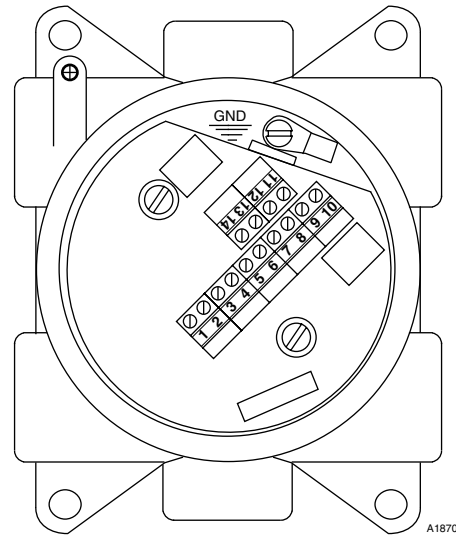
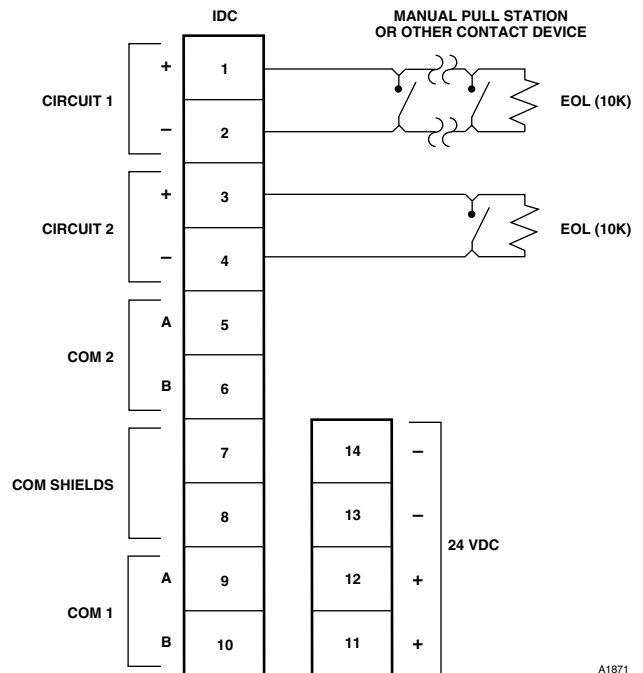

Figure 2—IDC Terminal Wiring Board Mounted in Six-Port Junction Box
Figure 3—Terminal Configuration for Initiating Device Circuit
2. Remove the communication module from the junction box. Connect external system wiring to the appropriate terminals on the terminal block inside the junction box. See Figure 2 for terminal block location and Figure 3 for terminal identification. The input to the IDC consists of one or more normally open switches (momentary pushbuttons are not recommended), with a 10K ohm, 1/4 watt EOL resistor in parallel across the last switch. An EOL resistor must be installed on both IDC inputs (including unused inputs). Wiring impedance must not exceed 500 ohms.